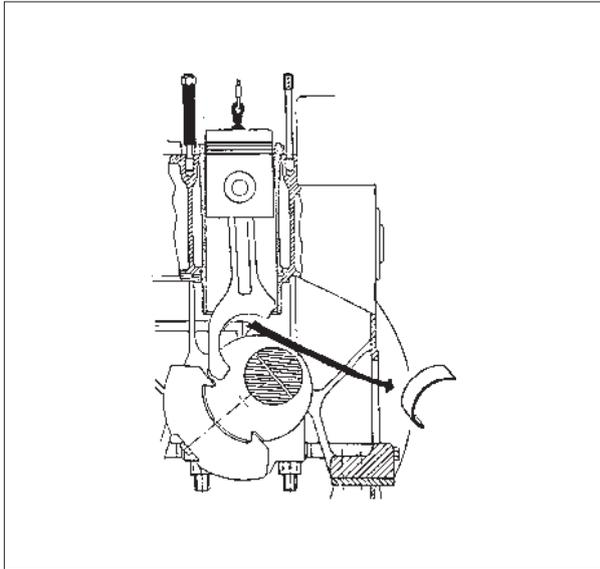

Fig. 3. Removal of upper big-end bearing shell.
10) Pull the piston and connecting rod assembly upwards and remove the upper big-end bearing shell, see fig. 3.